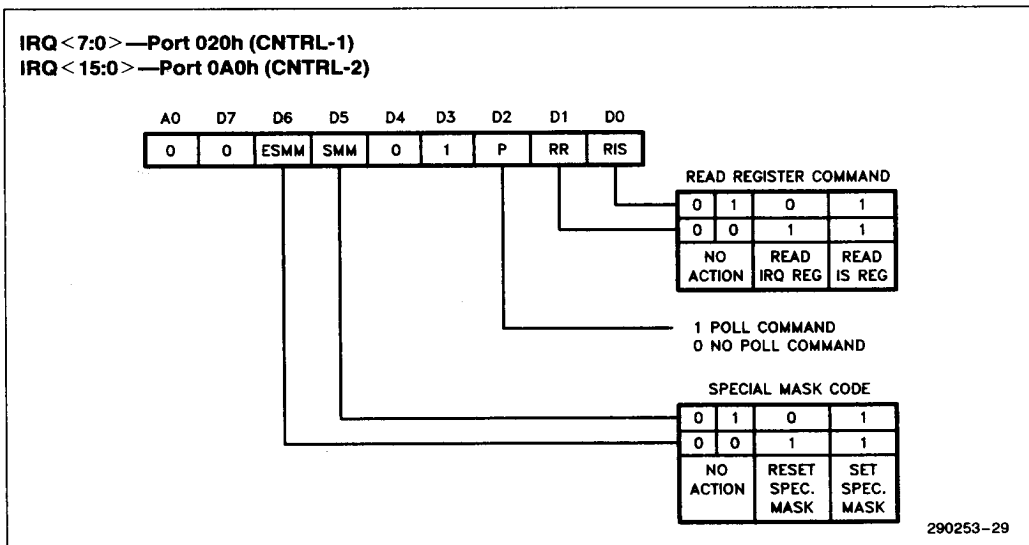

Figure 5-10. OCW3
**SMM**—Special Mask Mode. If ESMM = 1 and SSM = 1 the Interrupt Controller will enter Special Mask Mode. If ESMM = 1 and SSM = 0 the Interrupt Controller will revert to normal mask mode. When ESMM = 0, SSM has no effect. (See Figure 5-10.)